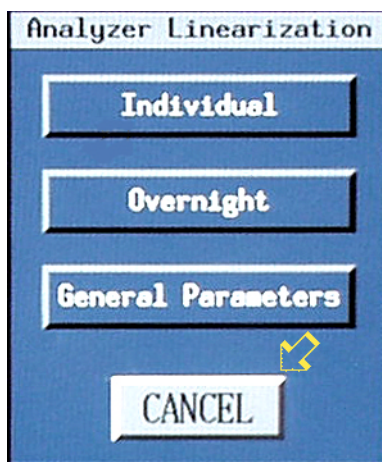

Figure 18
- 123 On the “Analyzer Linearization” Sub-panel, click on “Cancel” again. See the arrow in Figure 18.